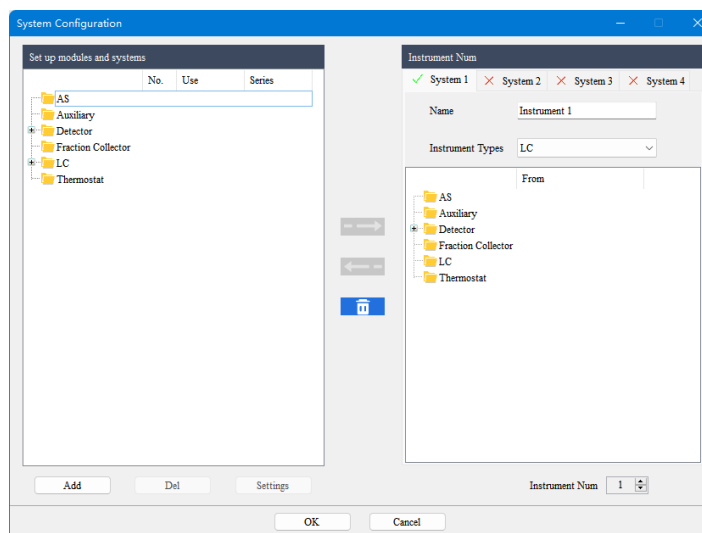

Fig. 3-8 Configuration Screen 02
2) The system configuration page shown in Fig. 3-8 is displayed: